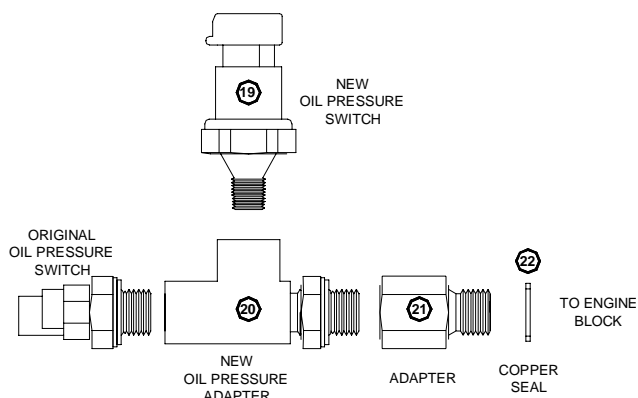

Figure 6
- Locate original oil pressure switch on the right rear side of the engine block. See Figure 6.